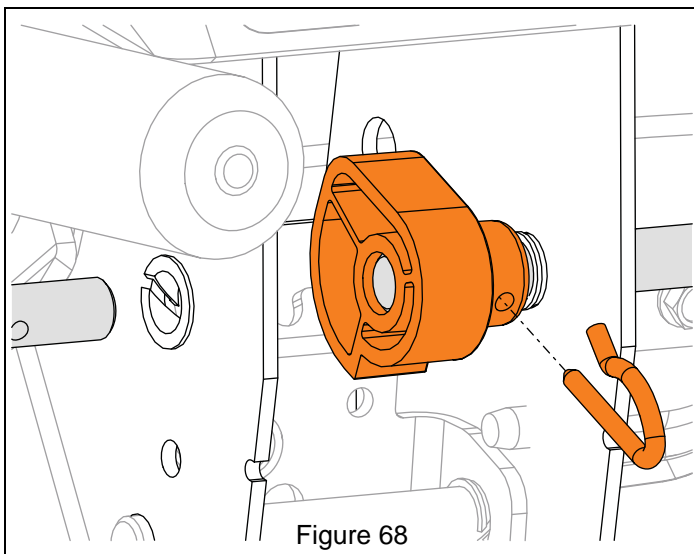

Figure 68
2. Install interlock cam onto camshaft so flat edge is positioned downward and secure with spring clip. See Figure 68.